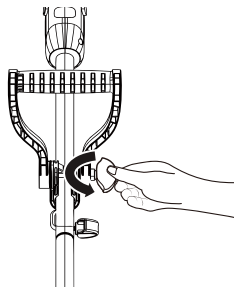

Fig. C1
1. Stop the machine and remove the battery pack. Wait until the auger comes to a complete stop. Turn the auxiliary handle locking knob counter-clockwise to loosen the handle. (See Fig. C1)